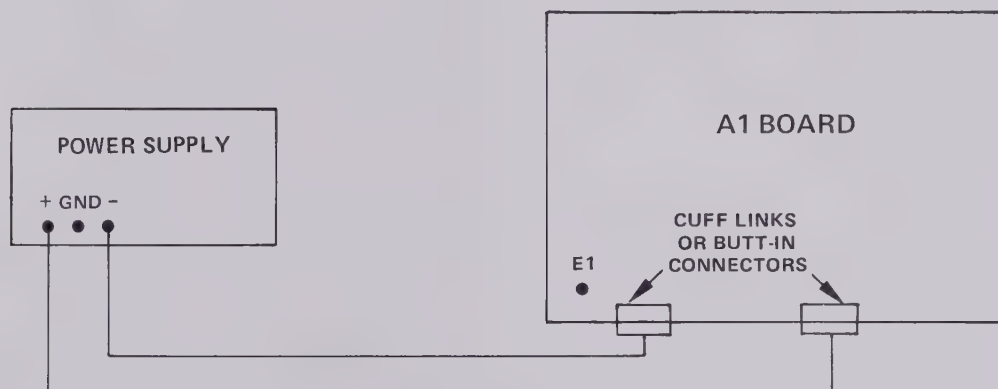

Figure 2-3. Power Supply to Cuff Link Connections
- Step 16: Disconnect the frequency synthesizer and set the Function Selector to the DIAL position. Connect a variable 0 to 50 VDC power supply, as shown in Figure 2-3, and adjust its output to 36 V. Switch the power supply meter to measure current and observe that when the 808's STEP CONTROL pushbutton is depressed, a current equal to or greater than 23 mA, but not more than 40 mA, is indicated. To release the holding circuit, the 808 Function Selector must be rotated to any position other than DIAL, and then returned to the DIAL position.